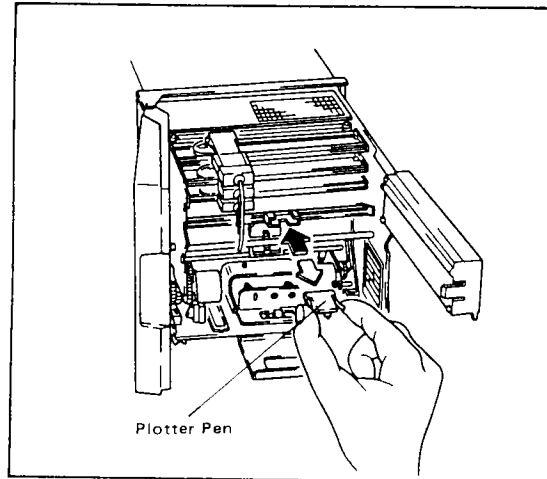

Figure 5-14.
- (4) While grasping the plotter holder, gently slide the plotter out of the holder. (See Figure 5-14.)
- (5) Insert a new plotter in the holder. (See Figure 5-14.)